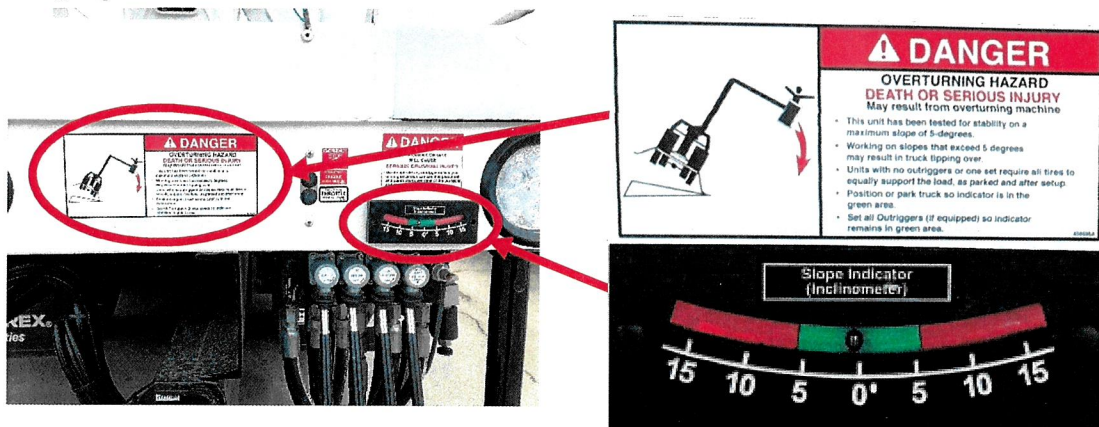

Figure 1. This bulletin applies if slope indicator and/or decal allows 5 degrees out of level.
2. Inspect at the rear of the chassis to determine if the correct chassis slope indicators and overturning hazard decals are installed within 10 days on TL80 and TL80/112 aerial devices using Figures 1 and 2 below.